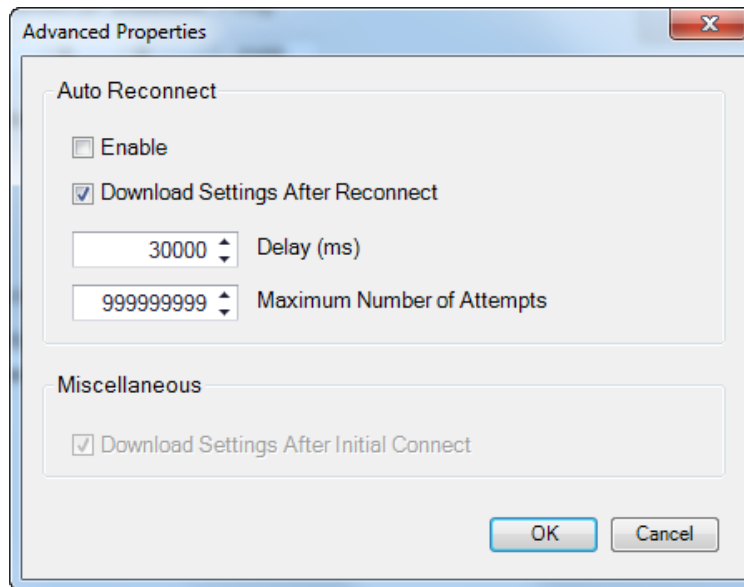

Figure 21-10. Advanced Properties, Auto Reconnect
7. The *Advanced* button displays the following window. It contains options for enabling Auto Reconnect, the delay between retries (in milliseconds), and the maximum number of attempts. (Figure 21-10)